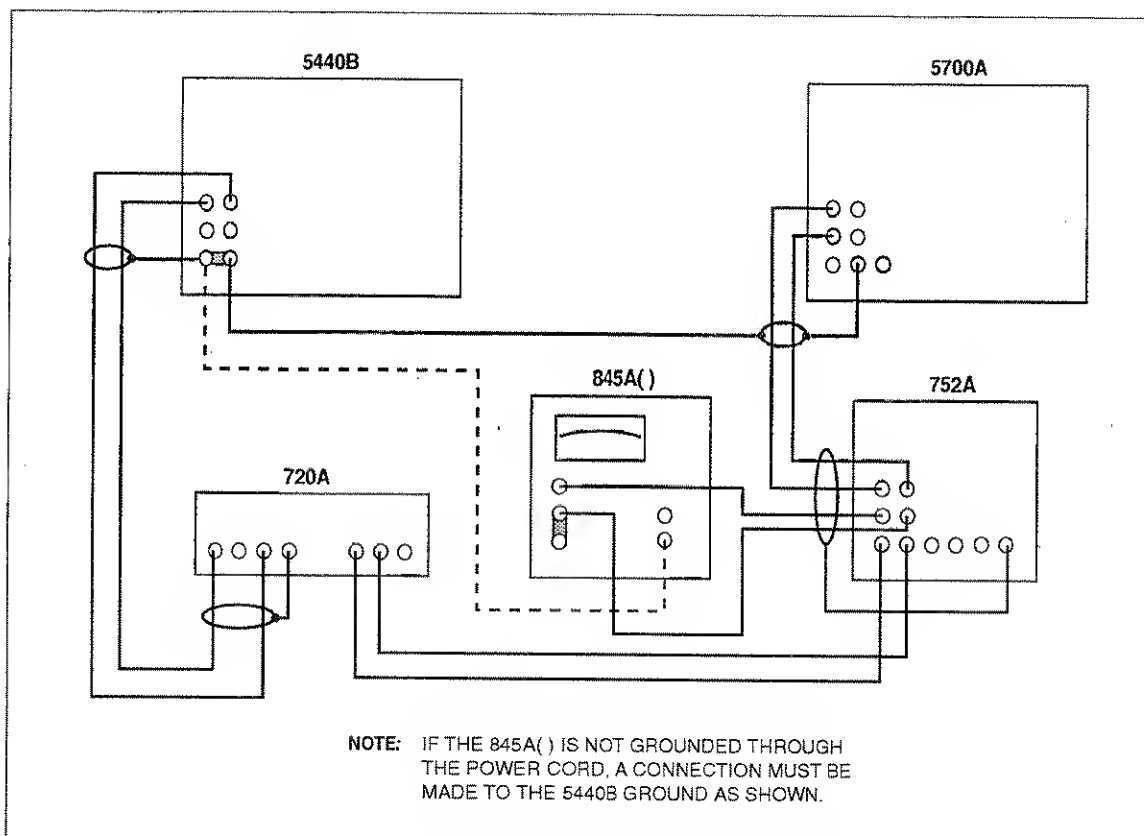

Figure 3-3. DC Source Characterization Setup, Part 2
7. Connect the equipment as shown in Figure 3-3.